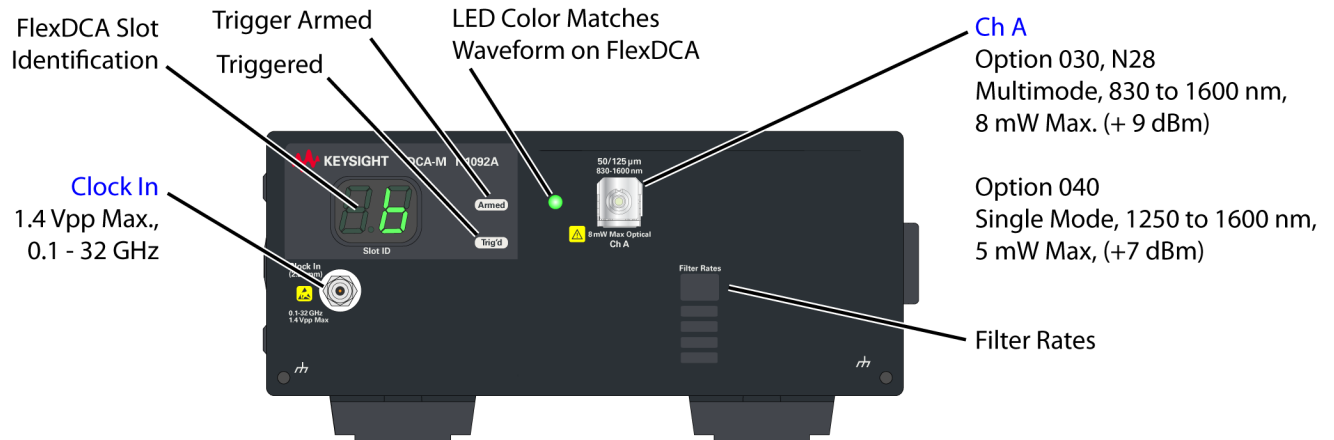

Figure 7. N1092A Front Panel
- *Figure 7, N1092A Front Panel*, on page 33